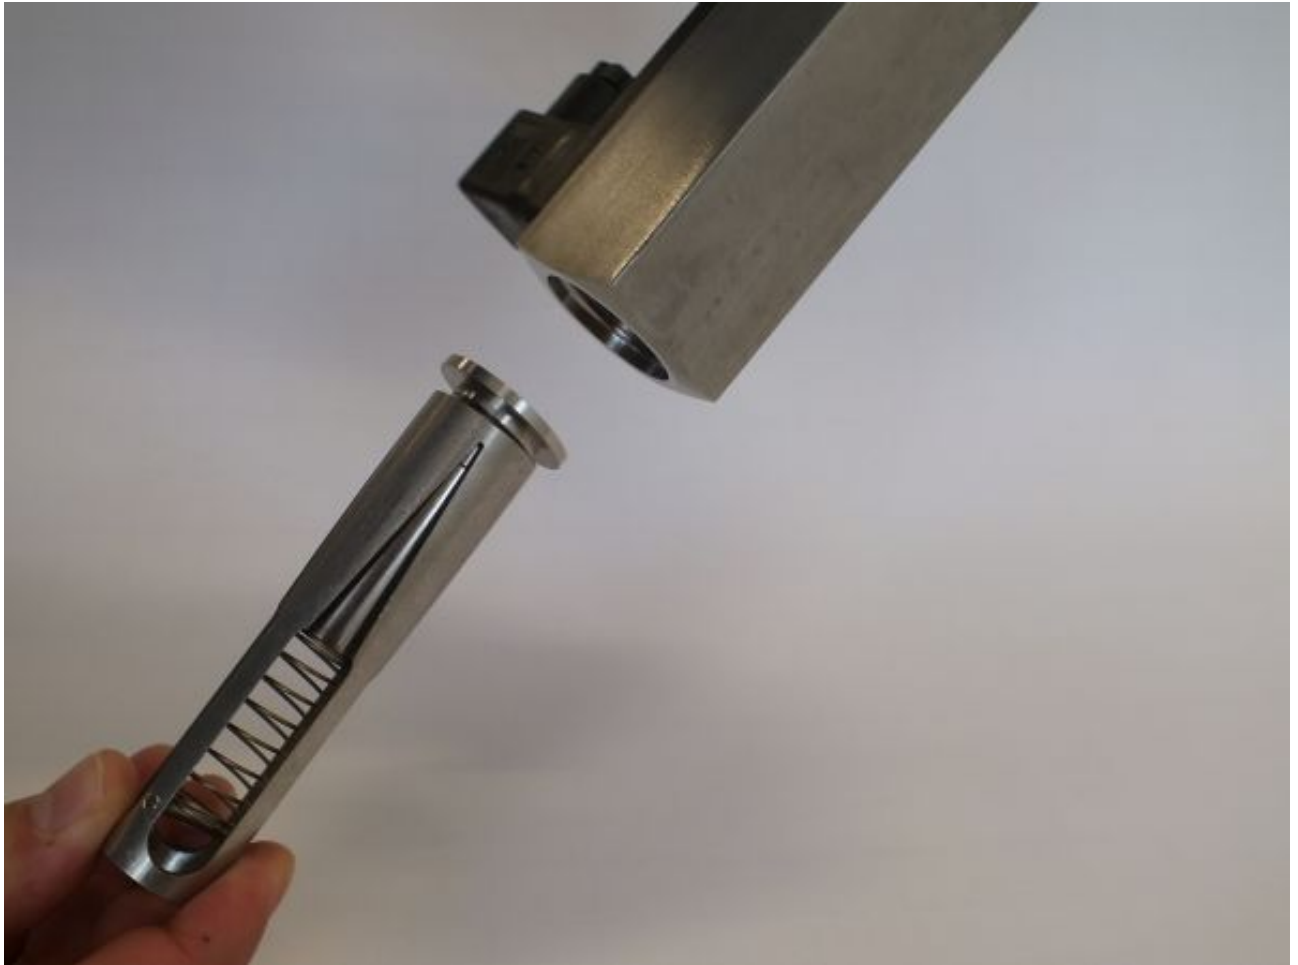

Fig. 44: Remove inner parts
- 4.** ➤ 4. Carefully turn the device body 180° and remove the inner parts (slot nozzle, spring, float and inlet centering disc). (*Fig. 44*)